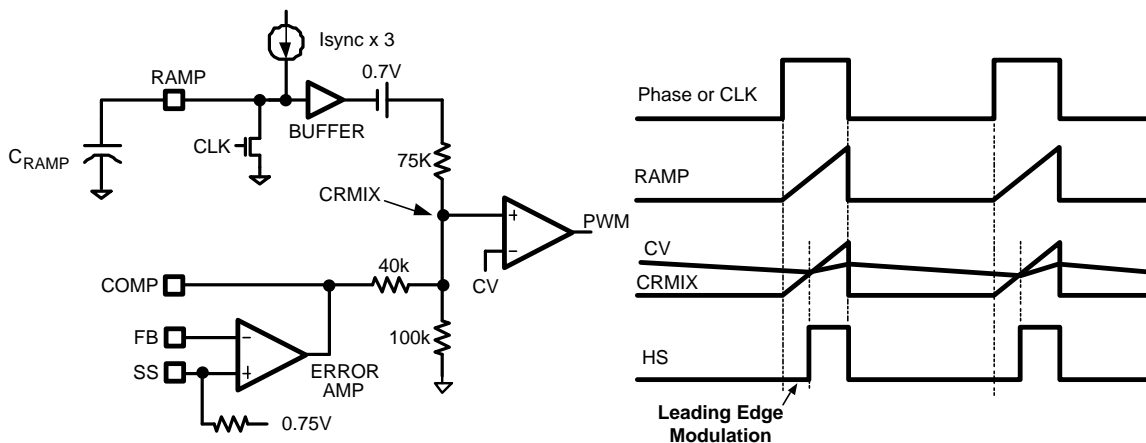
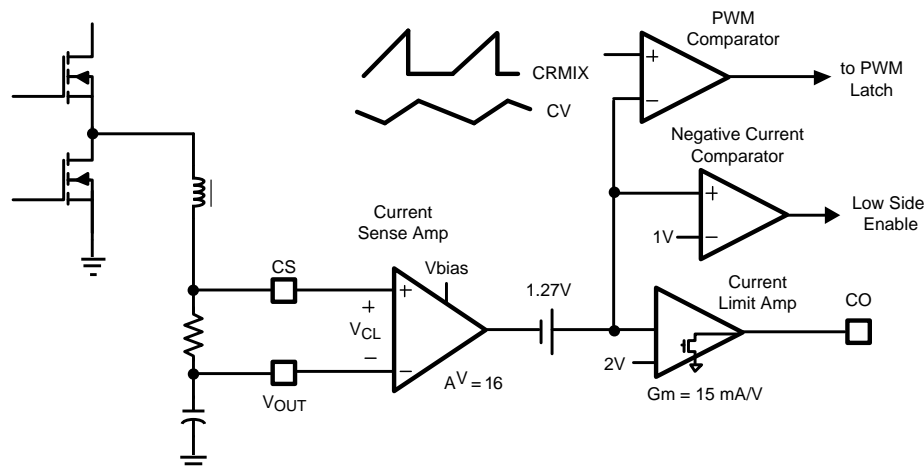

Figure 15. Synchronization and Leading Edge Modulation
Figure 17. Current Sensing and Limiting
Unlike conventional voltage mode controllers, the LM5115 implements leading edge pulse width modulation. A current source equal to 3 times the I_{SYNC} current is used to charge the capacitor connected to the RAMP pin as shown in Figure 15. The ramp signal and the output of the error amplifier (COMP) are combined through a resistor network to produce a voltage ramp with variable dc offset (CRMIX in Figure 15). The high side MOSFET which drives the HS pin is held in the off state at the beginning of the phase signal. When the voltage of CRMIX exceeds the internal threshold voltage CV, the PWM comparator turns on the high side MOSFET. The HS pin rises and the MOSFET delivers current from the main converter phase signal to the output of the auxiliary regulator. The PWM cycle ends when the phase signal falls and power is no longer supplied to the drain of the high side MOSFET.
The LM5115 controller uniquely combines elements and benefits of current mode control in a voltage mode PWM controller. The current sense amplifier shown in Figure 17 monitors the inductor current as it flows through a sense resistor connected between CS and VOUT. The voltage gain of the sense amplifier is nominally equal to 16. The current sense output signal is shifted by 1.27V to produce the internal CV reference signal. The CV signal is applied to the negative input of the PWM comparator and compared to CRMIX as illustrated in Figure 15. Thus the PWM threshold of the voltage mode controller (CV) varies with the instantaneous inductor current. Insure that the Vbias voltage is at least 3V above the regulated output voltage (VOUT).
Current limiting is implemented through the current sense amplifier as illustrated in Figure 17. The current sense amplifier monitors the inductor current that flows through a sense resistor connected between CS and VOUT. The voltage gain of the current sense amplifier is nominally equal to 16. The output of current sense signal is shifted by 1.27V to produce the internal CV reference signal. The CV signal drives a current limit amplifier with nominal transconductance of 16mA/V. The current limit amplifier has an open drain (sink only) output stage and its output pin CO is typically connected to the COMP pin. During normal operation, the voltage error amplifier controls the COMP pin voltage which adjusts the PWM duty cycle by varying the internal CRMIX level (Figure 15). However, when the current sense input voltage V_{CL} exceeds 45mV, the current limit amplifier pulls down on COMP through the CO pin. Pulling COMP low reduces the CRMIX signal below the CV signal level. When CRMIX does not exceed the CV signal, the PWM comparator inhibits output pulses until the CRMIX signal increases to a normal operating level.
When inductor current flows from the regulator output through the low side MOSFET, the input to the current sense comparator becomes negative. The intent of the negative current comparator is to protect the low side MOSFET from excessive currents. Negative current can lead to large negative voltage spikes on the output at turn off which can damage circuitry powered by the output. The negative current comparator threshold is sufficiently negative to allow inductor current to reverse at no load or light load conditions. It is not intended to support discontinuous conduction mode with diode emulation by the low side MOSFET. The negative current comparator shown illustrated in Figure 17 monitors the CV signal and compares this signal to a fixed 1V threshold. This corresponds to a negative V_{CL} voltage between CS and VOUT of -17mV. The negative current limit comparator turns off the low side MOSFET for the remainder of the cycle when the V_{CL} input falls below this threshold.
Both drivers are controlled by the PWM logic signal from the PWM latch. When the phase signal is low, the outputs are held in the reset state with the low side MOSFET on and the high side MOSFET off. When the phase signal switches to the high state, the PWM latch reset signal is de-asserted. The high side MOSFET remains off until the PWM latch is set by the PWM comparator ($CRMIX > CV$ as shown in Figure 15). When the PWM latch is set, the LO driver turns off the low side MOSFET and the HO driver turns on the high side MOSFET. The high side pulse is terminated when the phase signal falls and SYNC input comparator resets the PWM latch.